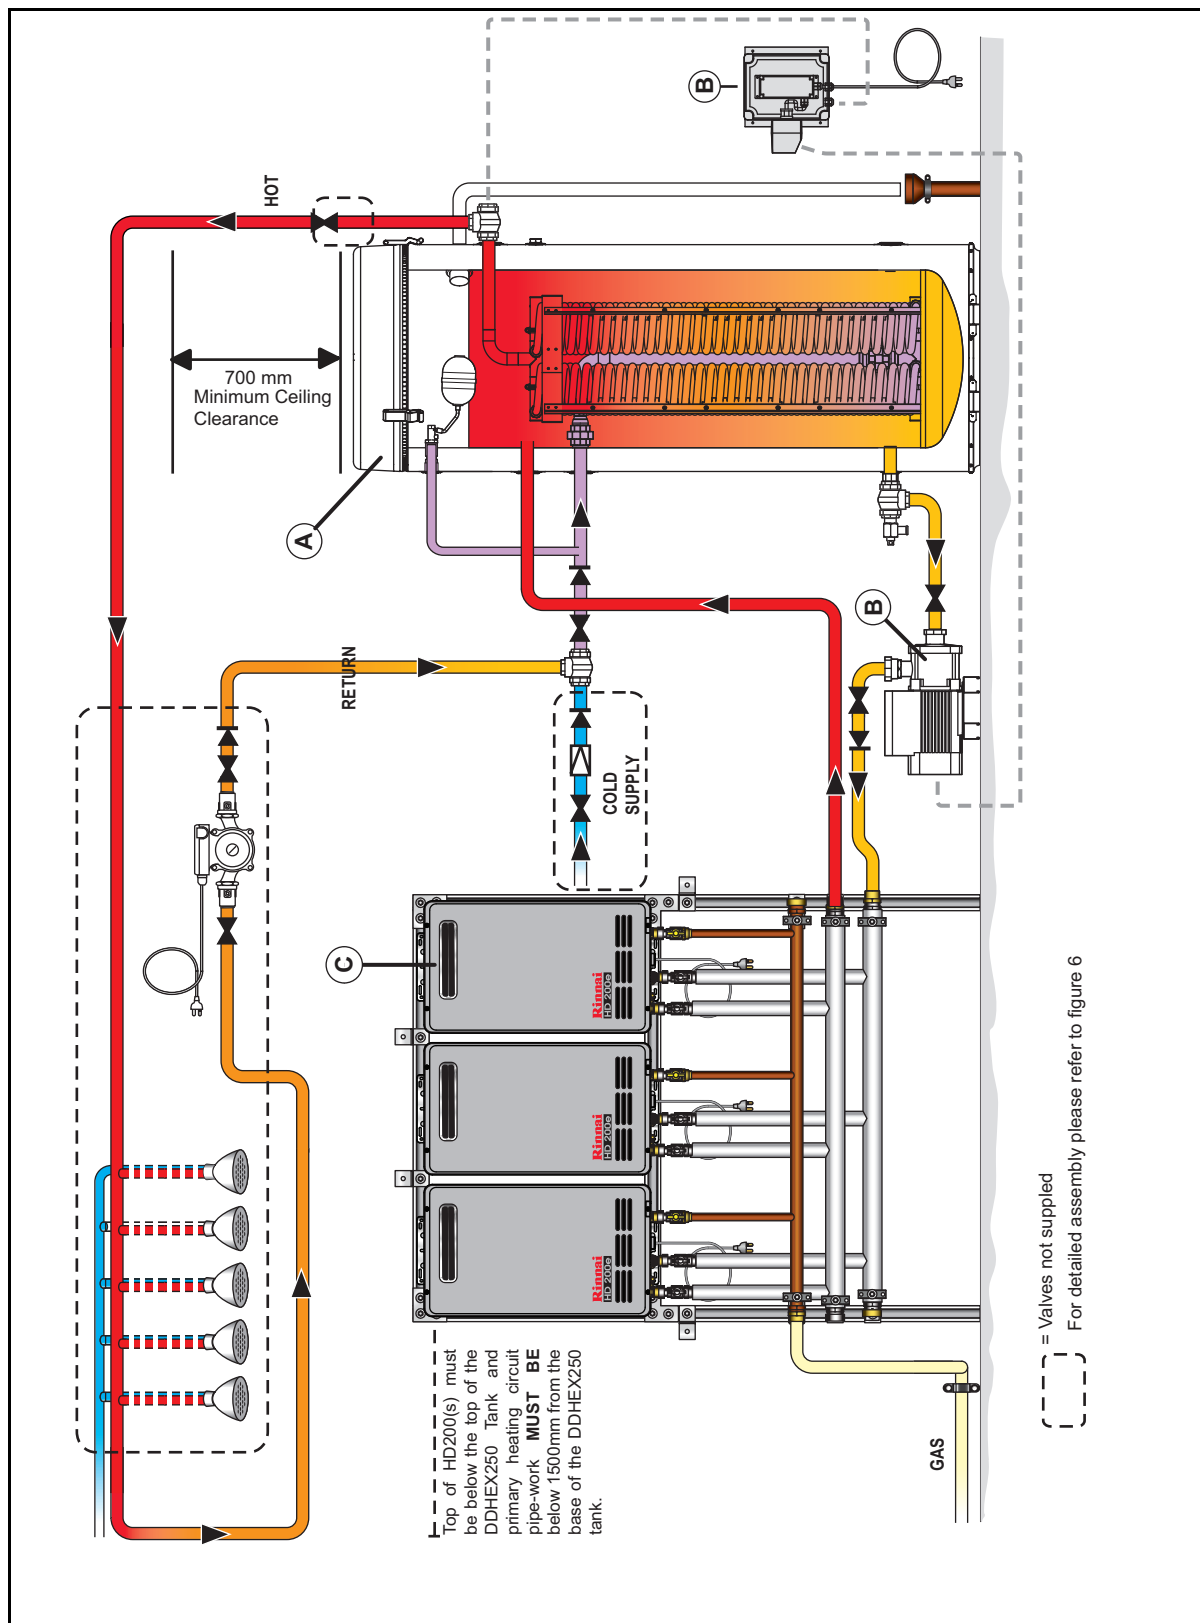

Figure 2 - DDHEX250 System Principle of Operation
2. Fitting Kit - Kit includes Primary Circulating Pump, Thermostat and all connections. (Refer Ⓑ in Figure 2).
3. Manifoldd HD200 Gas Continuous flow water heaters (1, 2 or 3), Internal or External NG or LPG. (Refer Ⓒ in Figure 2).